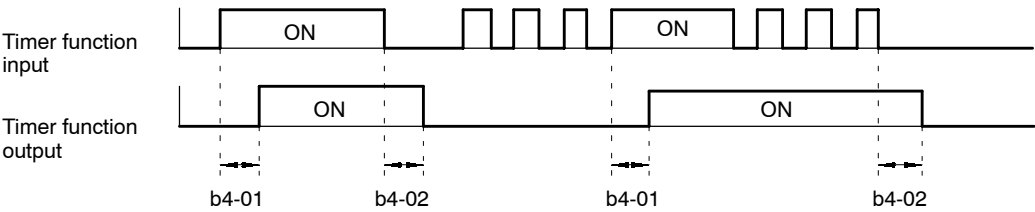

Fig 7.22 Operation Example of Timer Function
- When the timer function input OFF time is longer than the value set for b4-02 (timer function OFF-delay time), the timer function output turns OFF. An operation example of the timer function is shown in Figure 7.22.